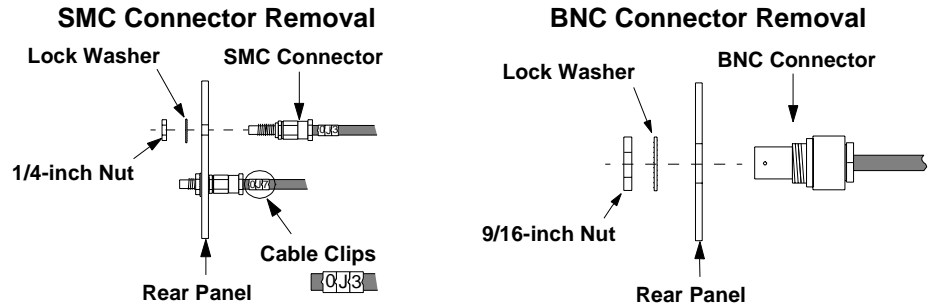

Figure 24
4. Access to other assemblies on the deck is now possible without removing the SMC connectors from the rear panel. If complete removal of the rear panel is necessary, use a 1/4-inch wrench or deep nut-driver to disconnect the SMC connectors and a 9/16-inch wrench to disconnect the BNC connectors, see figure 24.